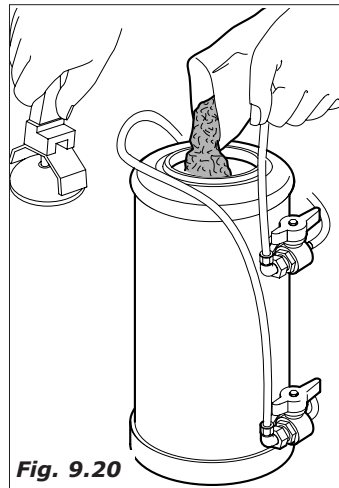

Fig. 9.20
- remove the cover and introduce 1,5 kg of normal cooking salt. (*Fig. 9.20*)